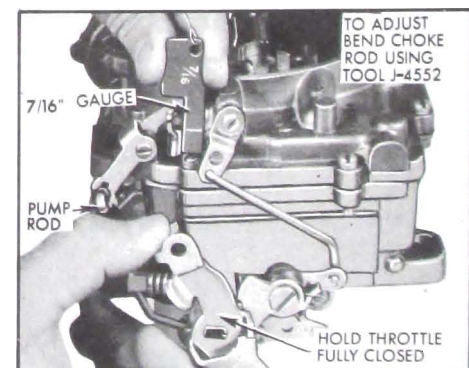

Figure 3-77—Pump Adjustment
3. Adjust Pump. Push fast idle cam aside and back out throttle stop screw until throttle valves seat in throttle bores. With pump rod in center hole, measure from air horn to top of plunger shaft with scale. Use proper gauge to measure $7/16$ " in center hole for all single 4-barrel carburetors, $1/2$ " in center hole for all front dual 4-barrel carburetors, or $1/2$ " in inner hole for all rear dual 4-barrel carburetors. See Figure 3-77. Bend pump rod at